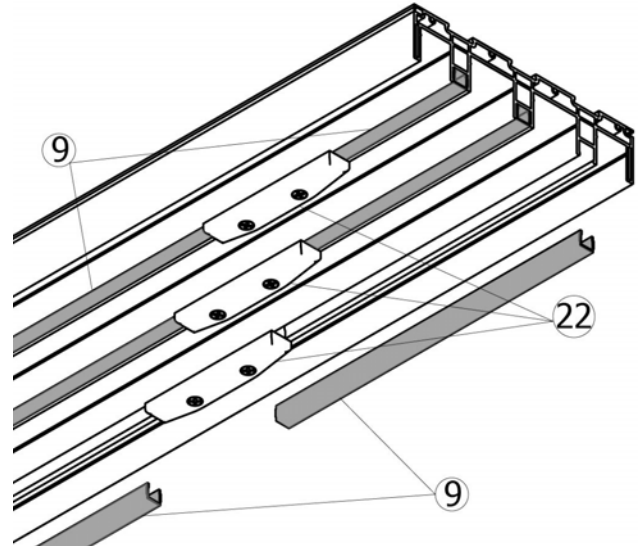

Figure 30
48. Locate the frame screw covers (Item 9) and cut them to the lengths determined in the previous step (Figure 30).
49. Snap the cover into the frame head, using a rubber mallet to secure the cover (Figure 30).